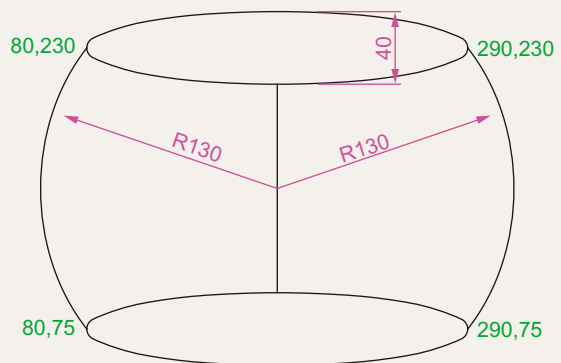

Fig. 3.46 Exercise 3
- Using the **Ellipse** and **Arc** tools, construct the drawing Fig. 3.46.